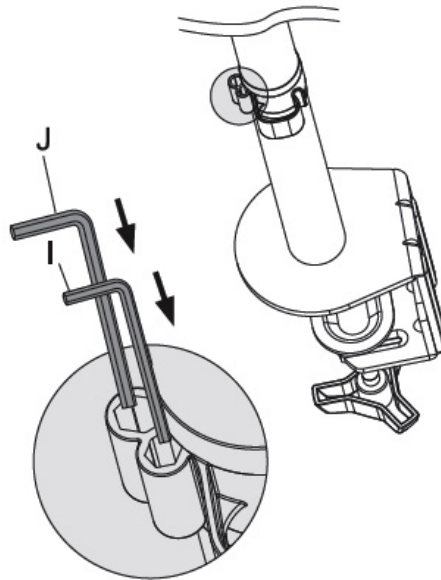

Figure 12
4. Place the Allen Keys (I, J) into the plastic clip, see **Figure 12**.